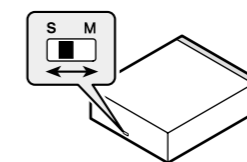

Fig. 16
- SOURCE mode (S) – Using with a Pioneer head unit featuring an IP-BUS input or multi-channel processor control unit
- MASTER mode (M) – Using with a car stereo featuring RCA audio inputs or FM reception capability
- **Use a thin standard tip screwdriver to switch the operation mode switch on the back of this unit. (Fig. 16)**